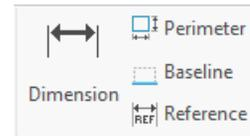

Figure 3-1 The **Dimension** group
1. Choose the **Baseline** tool from the **Dimension** group, refer to Figure 3-1.